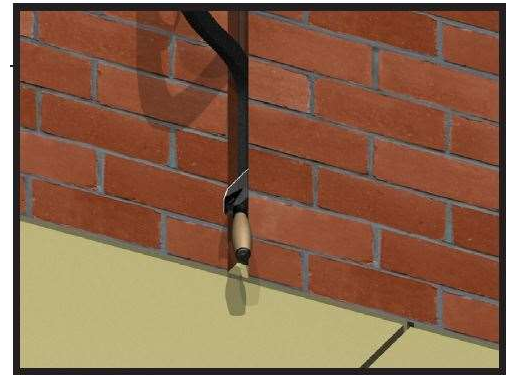

Figure 4
4. Place the material into the joint while gently pushing the non-PSA (pressure sensitive adhesive) up against the side of the substrate. Once the material is in place, use a margin trowel to firmly press the adhesive side to the substrate and allow the material to expand to fill the joint. See **Figure 4**